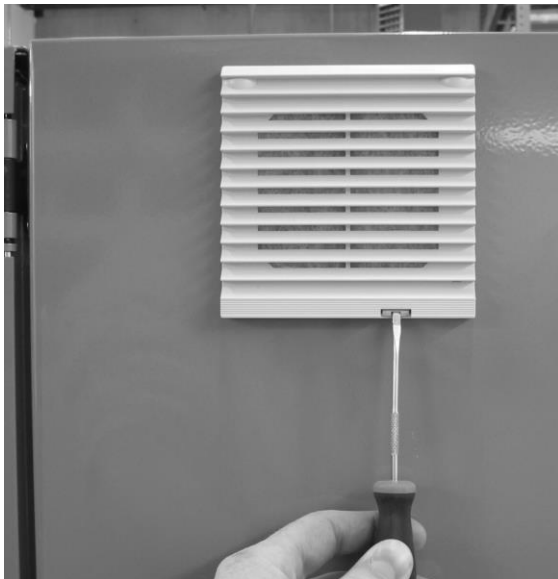

Fig. 6-11 Enclosure air filter
- The air filters for the electrical closure are removed from back of closure and cleaned with compressed air. A small screwdriver is inserted into the slot to release the louvered filter lid as shown in figure 6-11. Push the screwdriver up to release the filter lid.